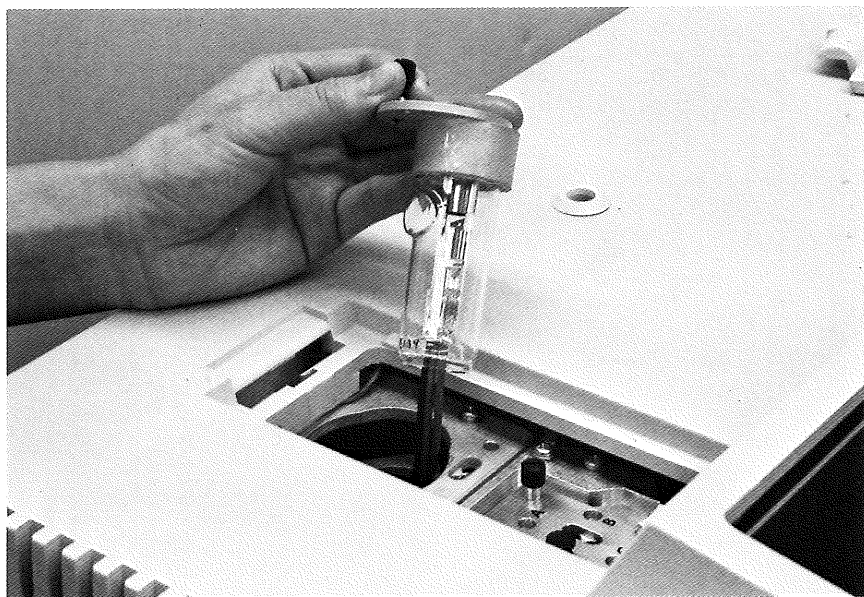

Figure 8-3.
4. Remove source by lifting straight up. Guide cable through source mounting bracket. See Figure 8-3.